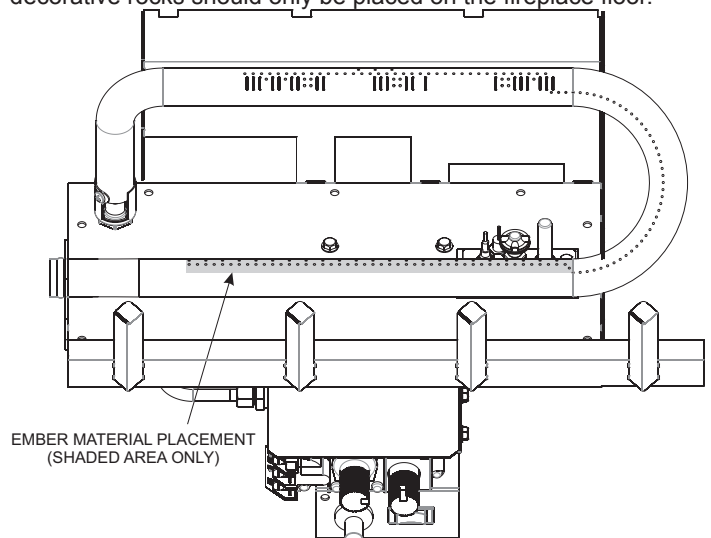

Figure 69
4. Place the ember material pieces on the front burner port area. **See Figure 69.**